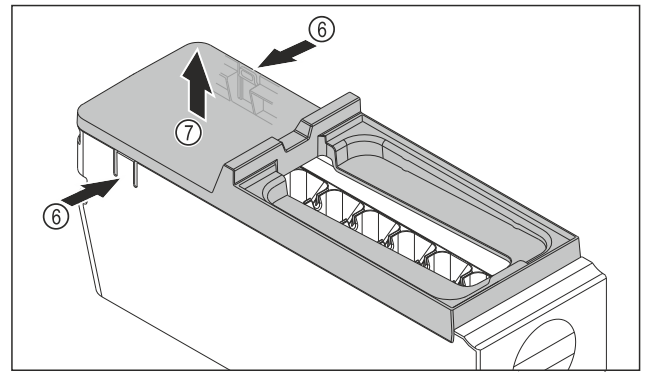

Fig. 88
- ▶ Removing the EasyTwist-Ice body cover: Push the tabs Fig. 88 (6) on both sides of the EasyTwist-Ice body with one hand.
- ▶ Use the other hand to remove the cover Fig. 88 (7) upwards.